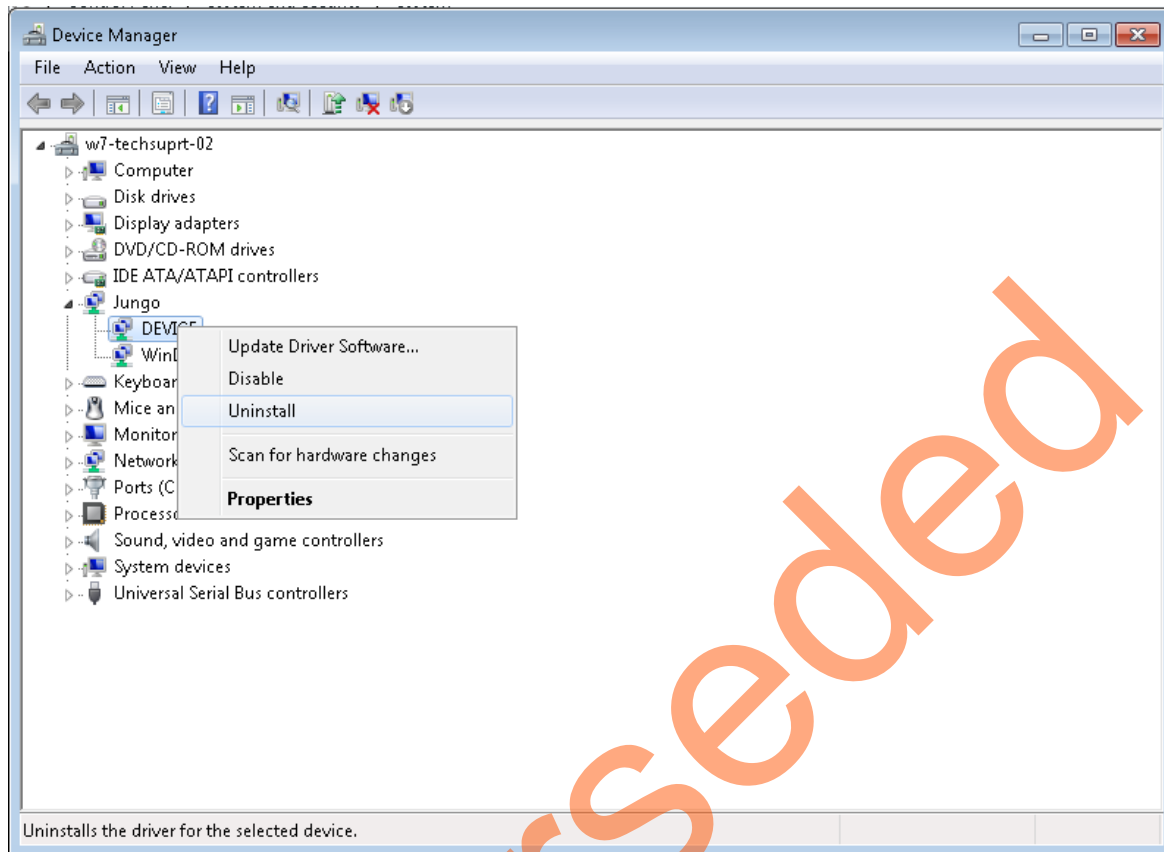

Figure 56 • Device Uninstall
3. To uninstall previous Jungo drivers go to device manager and right-click on DEVICE as shown in Figure 56 on page 54 device uninstall.